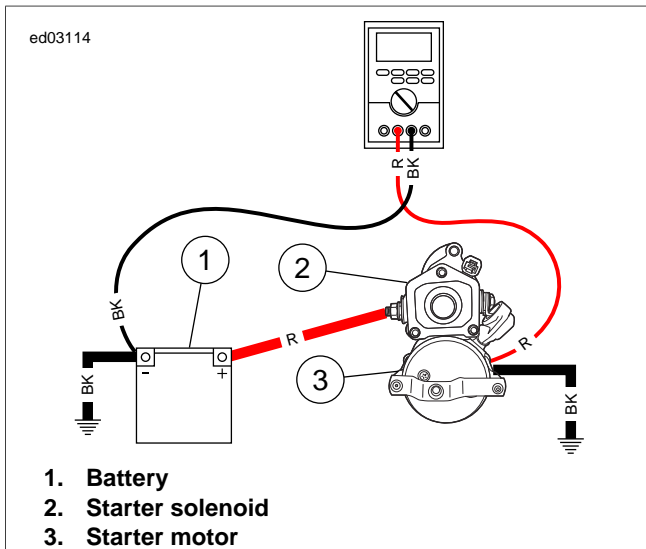

Figure 1-25. Starter Ground Circuit
4. See Figure 1-25. Finally move the black meter lead to the negative battery post and the red meter lead to the starter case. Crank the starter.